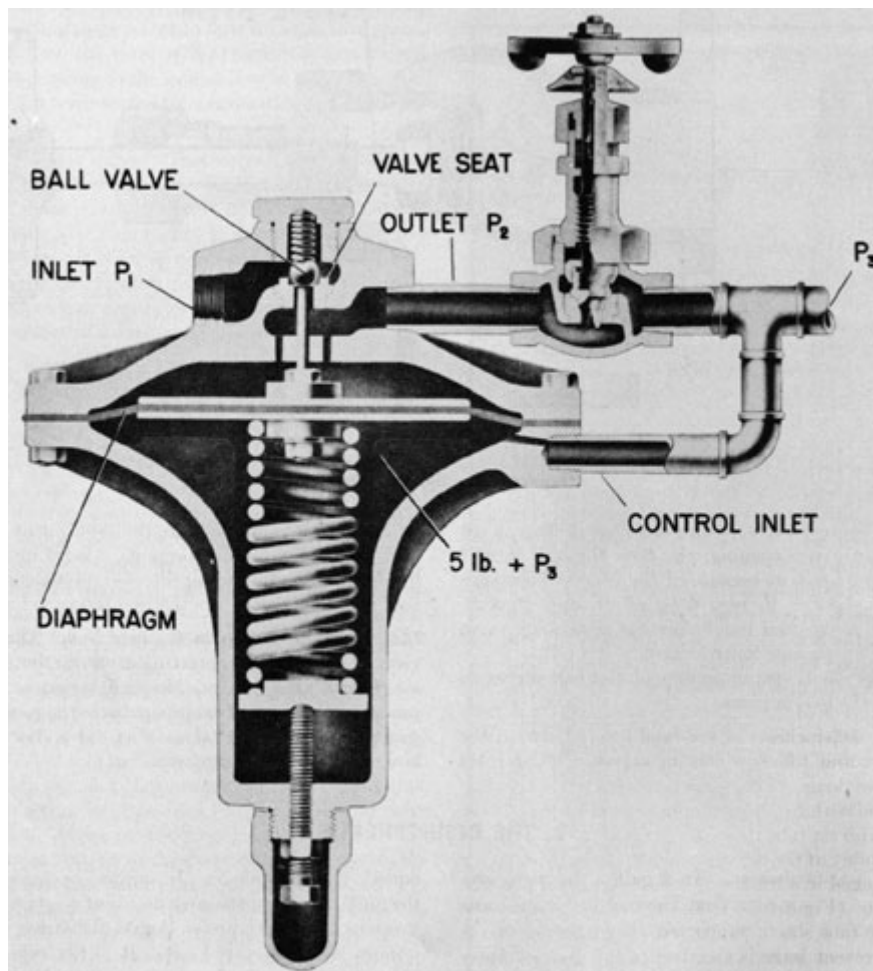

Figure 7-4. Feed regulating valve.
**7C4. Feed regulating and flow control valves.** In the feed line, just after the water filters leading to the heat exchanger, is the feed regulating valve (Figure 7-4) and the flow control valve